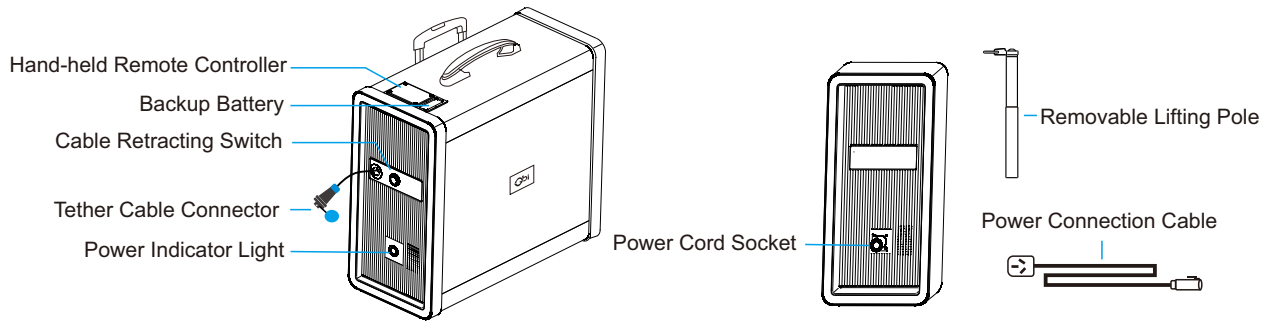

Figure 3: Schematic Diagram Of The Components Of The Tethered Box
a. Components Of The Tethered Box System (Refer To Figure 3)
- ① The Tethered Box: It mainly contains automatic cable retractor, tethering cable, handheld remote controller, backup battery, power connection cable, Removable Lifting Pole and, Lifting Pole Fixation Frame and other components.
- ② Tether Cable Connector: Used for connecting the integrated box to the lighting drone.
- ③ Tether Cable: Used for providing power to the drone and transmitting signals between the integrated box and the lighting drone.
- ④ Hand-held Remote Controller: Used for controlling the drone and lighting system.
- ⑤ Backup Battery: Used to provide temporary power to the lighting drone in case of a power outage in the mooring integrated box.
- ⑥ Power Connection Cable: Used to connect the external power supply.
- ⑦ Removable Lifting Pole: Used for restraining the tethering cable.
- ⑧ Lifting Pole Fixation Frame: Used to fix the removable lifting pole.